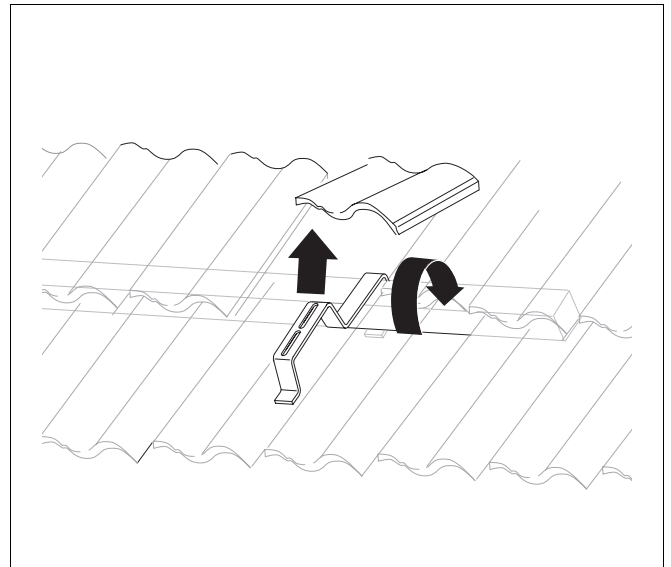

Fig. 21 Attaching roof hooks
- ▶ Lift the corresponding pantile or brick tile (Fig. 21).